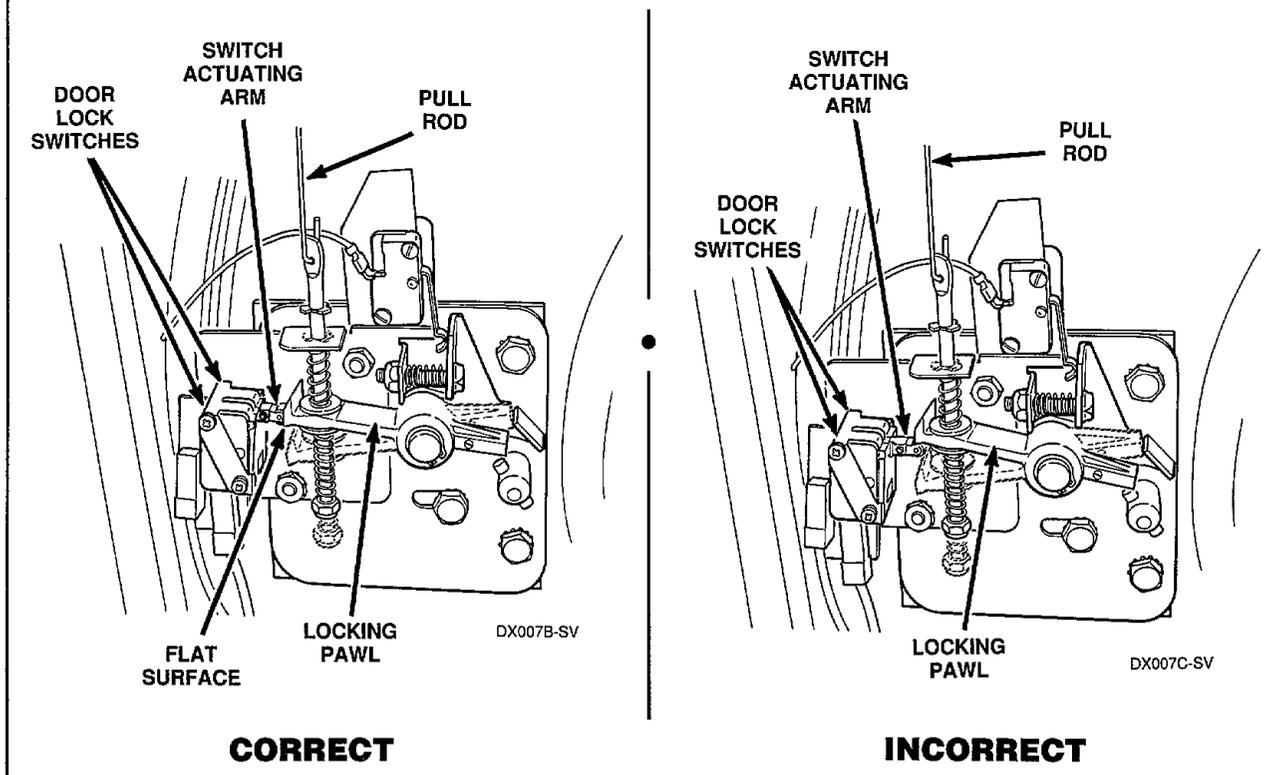

Figure 29
**NOTE: This adjustment moves the locking pawl up allowing the wheel on the switch actuating arm to contact the flat surface on the locking pawl, *Figure 29*. Over adjustment will allow the locking pawl to move above the wheel on the switch actuating arm, *Figure 29*.**